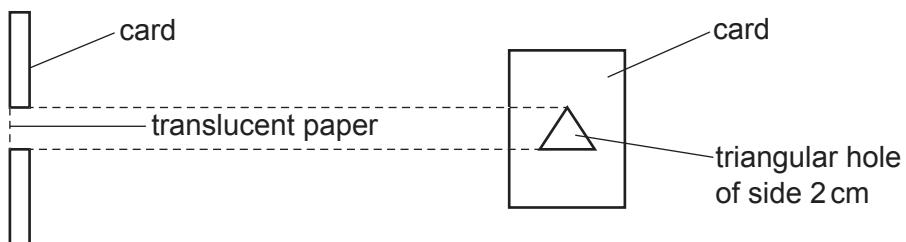

Fig. 7.1
1. The object can be made by cutting a triangular hole in a piece of white card and covering the hole with translucent paper, as shown in Fig. 7.1.
The orientation of the triangle must be as shown in Fig. 7.1.